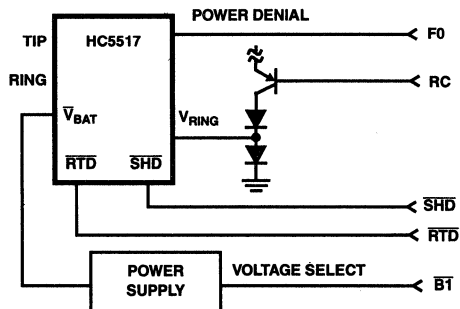

FIGURE 6. SLIC CONTROL AND INTERFACE
For the most robust control of the analog port, 5 digital I/O lines are needed for communication with the ISDN interface (see Figure 6). These 5 lines can come directly from a device like the Siemens ARCOFI, any controller connected to the S or U interfaces, or directly from the host processor by way of the Peripheral Component Interconnect (PCI) or Industry Standard Architecture (ISA) bus. The 5 signals needed are Switch Hook Detect (SHD), Ring Trip Detect (RTD), Ring Cadence (RC), F1 (power denial pin), and Battery Switch (B1). SHD and RTD are described above in the SLIC functions section. RC is the Ring Cadence input to the SLIC circuitry that gates the sine generator connection to the V_{RING} pin and switches the transistor to create the proper DC bias on the V_{RING} pin for optimum balanced ringing. RC is normally provided by timing generators that produce a variety of pattern as shown in Table 1. F1 is an input to the SLIC that will put the system in a low power mode. This limits loop current to the two wire side which disables voice and Dual Tone Multi Frequency (DTMF) signals from an external handset. It can be used to password protect the analog port for cost savings since the use of a standard telephone line (if available) is generally cheaper. Finally the B1 is used to switch from the ringing voltage of -80V to the active voltage of -27V.